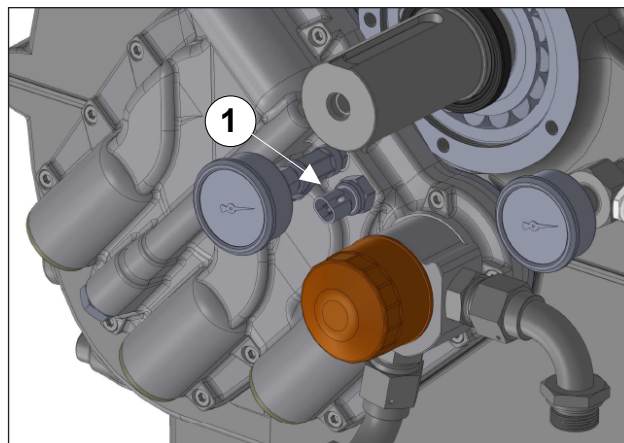

Fig. 135
Mount the radial seal ring onto the oil seal cover (pos. ①, Fig. 135) using a drift or equivalent tool (special tool code 27643500).